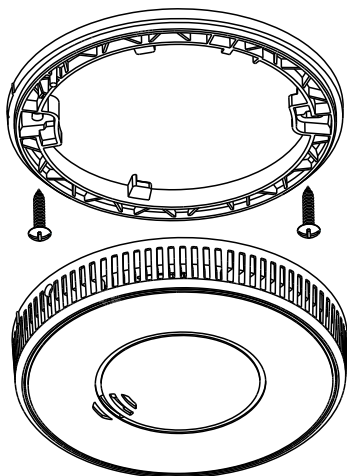

Fig. 7 – Fixing the smoke alarm base
6. Attach the base to the ceiling with the screws supplied (see Fig. 7).